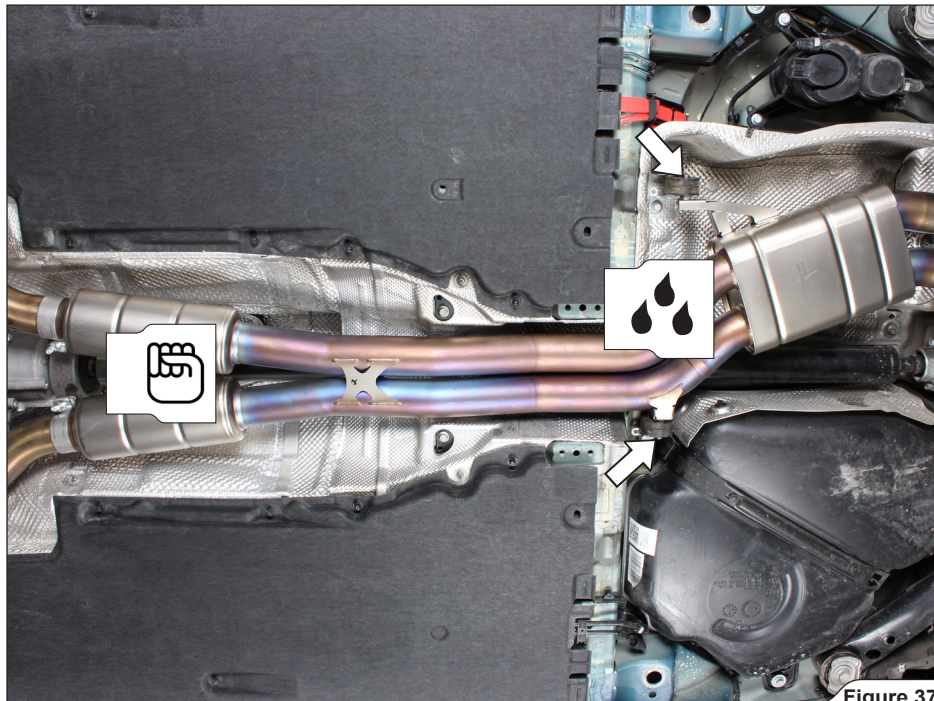

Figure 37
- Slide the collector all the way onto the link pipes outlets, attach the collector's bracket pins to the stock rubber brackets and hand tighten the clamps (**Figure 37**).